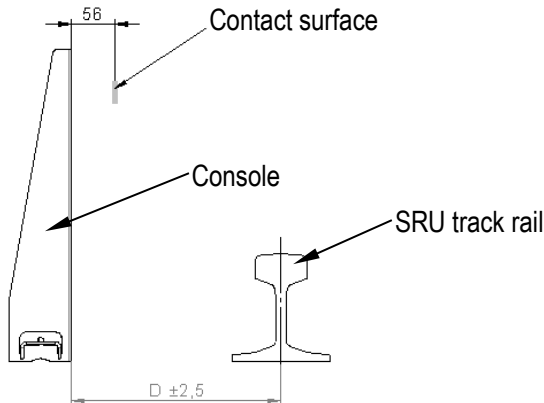
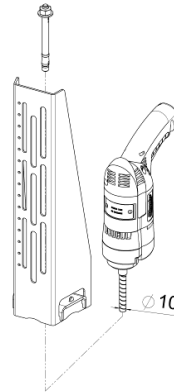

Fig. 15: Distance of console to contact surface and to SRU track rail
Fig. 16: Dowel (Order No.: 08-162666) according to manufacturer's instructions
- Align the distance of the console using the SRU track rail (see Fig. 15) and drill a hole  $\varnothing$  10 mm onto the installing surface for the dowels (see Fig. 16).
The consoles must also be aligned with the SRU track rail (see Fig. 15).